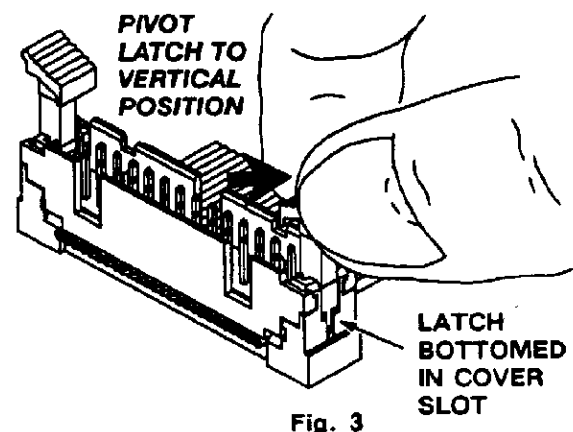

Fig. 3
2. Bottom latch in cover slot. Then, pivot latch to a vertical position as shown in Figure 3. Latch will snap into place.